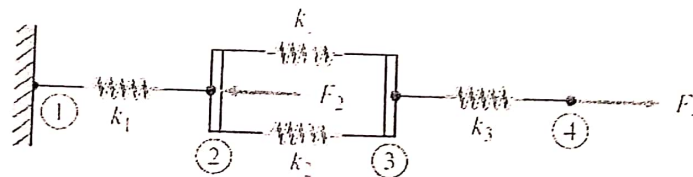

Figure 3: Four Spring Elements
b. (i) Apply Castigliano's first theorem to the system of four spring elements depicted in Figure 3 to obtain the system stiffness matrix. The vertical members at nodes 2 and 3 are to be considered rigid.
(ii) Solve for the displacements and the reaction force at node 1 of Figure 3 if
b. (i) Apply the Principle of Minimum Potential Energy to the system of four spring elements depicted in Figure 3 to obtain the system stiffness matrix. The vertical members at nodes 2 and 3 are to be considered rigid.